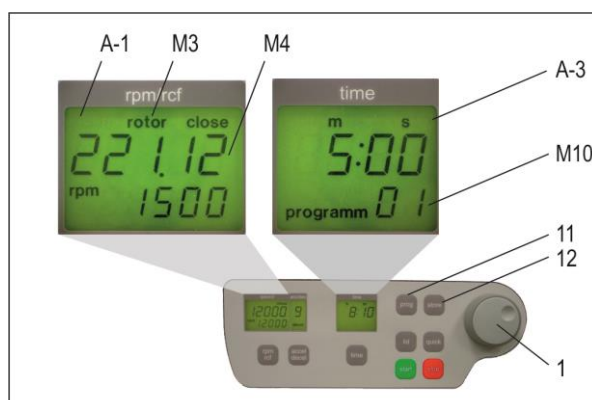

Figure 21
Put the desired rotor into the centrifuge. By pressing the key, "prog" (11), in the display "time" (A-3) appears the word "program", (see Figure 21). With the adjustable knob (1), choose the desired program number.